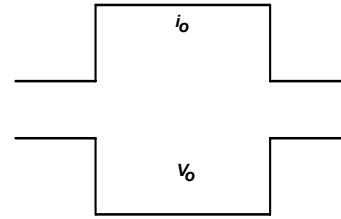

FIGURE 18. DESIRED LOAD TRANSIENT RESPONSE WAVEFORMS
Assuming the compensator design is correct, Figure 18 shows the expected load transient response waveforms if  $C_n$  is correctly selected. When the load current  $I_{core}$  has a square change, the output voltage  $V_{core}$  also has a square response.
Figure 18 shows the desired load transient response waveforms. Figure 24 shows the equivalent circuit of a voltage regulator (VR) with the droop function. A VR is equivalent to a voltage source ( $= V_{ID}$ ) and output impedance  $Z_{out}(s)$ . If  $Z_{out}(s)$  is equal to the load line slope  $LL$ , i.e. constant output impedance, in the entire frequency range,  $V_o$  will have square response when  $I_o$  has a square change.